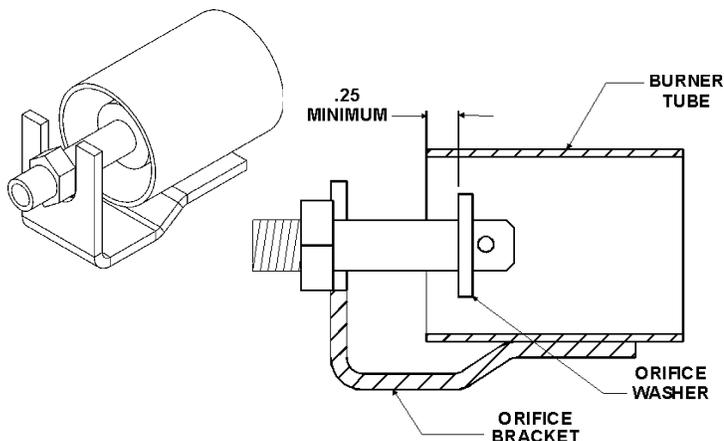

Figure 7. Burner/Orifice Insertion
**Note: Make sure the washer of each pre-jet orifice is inserted at least 1/4 into the burner tube and that it is not touching the sides of the burner tube. This is critical for proper operation; see Figure 7.**